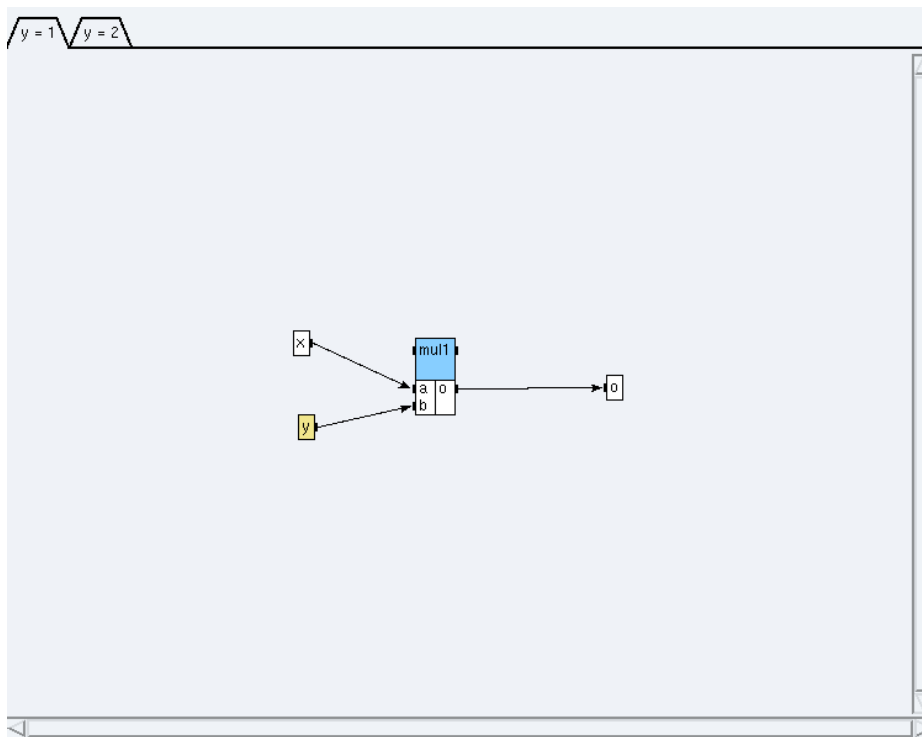

Figure 5.7: Condition `y=1`
- click on the condition `y=1` (cf. figure 5.7) and create the function `mul1<1>` of the definition **Arit_mul** from `int` library,